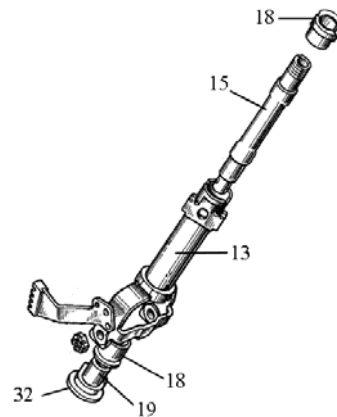

Figure 7.17
8) mount shock absorbers (18), (figure 7.17) up to shoulders in upper and lower end faces of pipe (13);
- 9) install bushing (19) in shock absorber (18) on the bottom side of pipe (13) to the end;
- 10) lubricate inside surface of bushing (19) with grease LITOL-24;
- 11) put on the end face of washer (32) grease LITOL-24 and press with hand to end face of bushing (19);
- 12) supporting from below pipes (13) bushing (19) with shock absorber (18) and washer (32), put from top side shaft (15) inside pipe (13);
- 13) put segment key (14), (figure 7.17), measuring 5x10 mm inside key groove of shaft (15) and mount shank of shaft inside yoke (10) of cardan connection so that key went into key groove of yoke (10);
- 14) align cut of shaft (13) with opening in yoke (10);
- 15) put bolt (11) with bending washer (9) and nut (8) with second washer (9);
- 16) tighten nut (8) and lock bolt and nut with bending washers;
Make disassembly of steering tie-rod (figure 7.17) in the following order: